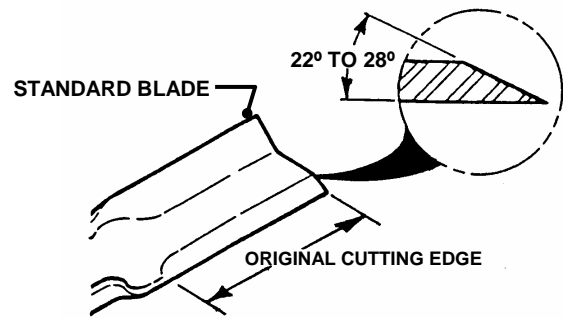

FIGURE 4.15
5. If a blade is in good condition, sharpen cutting edge at an angle of 22 to 28 degrees. DO NOT sharpen beyond existing cutting edge. Replace blades not in good condition. See Figure 4.15.